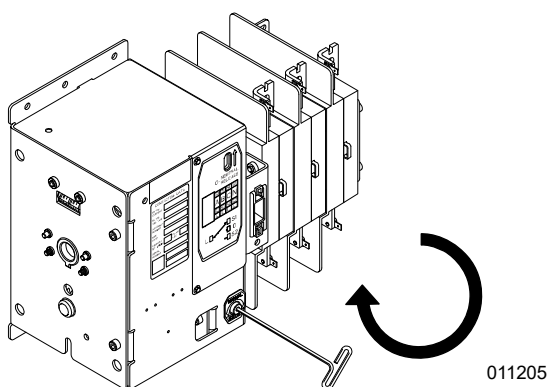

Figure 2-18. Rotate Manual Operator Clockwise
1. See Figure 2-18. With the manual operator inserted into the lower receptacle, rotate handle clockwise to transfer out of Source 2.